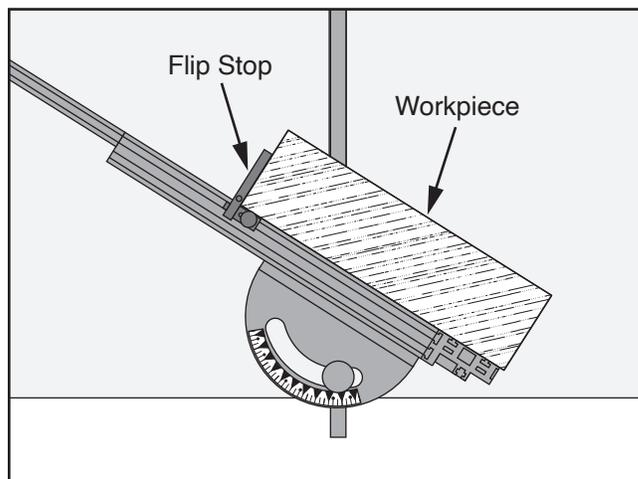

Figure 15. Flip stop adjusted to edge of workpiece.
2. Move flip stop so stop is flush with edge of workpiece (see **Figure 15**).